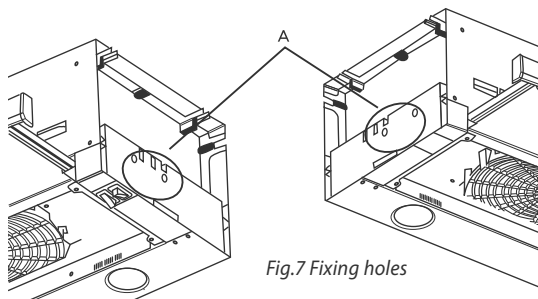

Fig.7 Fixing holes
- 1 Slide out the drawer and remove filter. You will see two mounting holes running through the moulded sides (see Fig.7).
- 2 ~~Remove the thin plastic skin (A) from each side fixing hole. An 8 mm diameter drill bit is recommended.~~